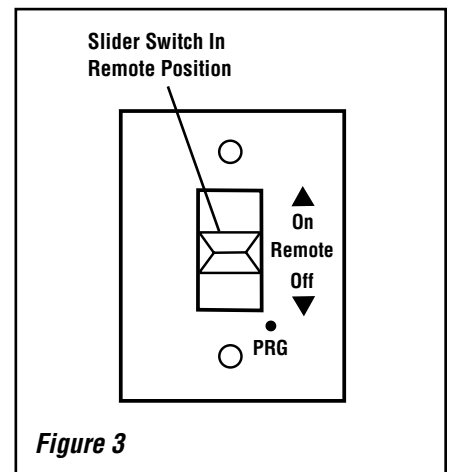

Figure 3
Place the three position slider switch in the "Remote" position (see **Figure 3**). Using the end of a paper clip, or other similar object, insert the end of the paper clip into the hole marked "PRG" on the Receiver front cover. The Receiver will "beep" three (3) times to indicate that it is ready to synchronize with a Transmitter.